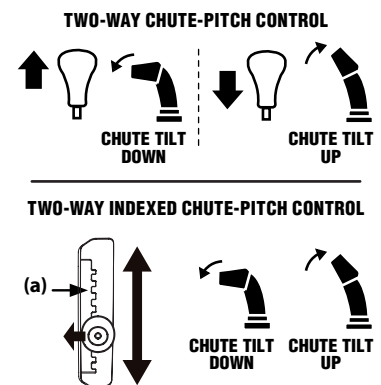

Figure 3-15
To change the upper chute angle to control the distance that snow is thrown, pivot the lever forward or backward. See Figure 3-15.
- To Reduce the Distance Snow is Thrown:** Move the lever forward to pivot the upper chute down. See Figure 3-15.
- To Increase the Distance Snow is Thrown:** Move the lever rearward to pivot the upper chute upward. See Figure 3-15.
- To Reduce the Distance Snow is Thrown:** Disengage lever from the current chute-pitch setting. Move the lever forward to pivot the upper chute down to the desired pitch setting (a). See Figure 3-15.
- To Increase the Distance Snow is Thrown:** Disengage lever from the current chute-pitch setting. Move the lever rearward to pivot the upper chute upward to the desired pitch setting (a). See Figure 3-15.